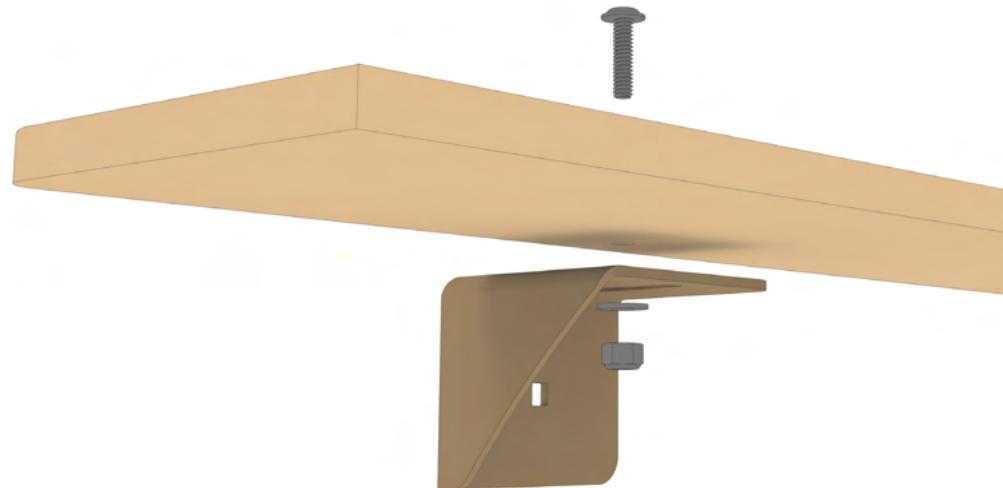

FIG 70
5.4 Attach Wing Support Brackets to Wing Flare: Loosely attach Wing Support Brackets in the orientation as shown to Wing Flares using (1ea) 1/4-20 x 1 Flanged Button Head Screws, Flat Washers and Nylon Locknuts (FIG 70).